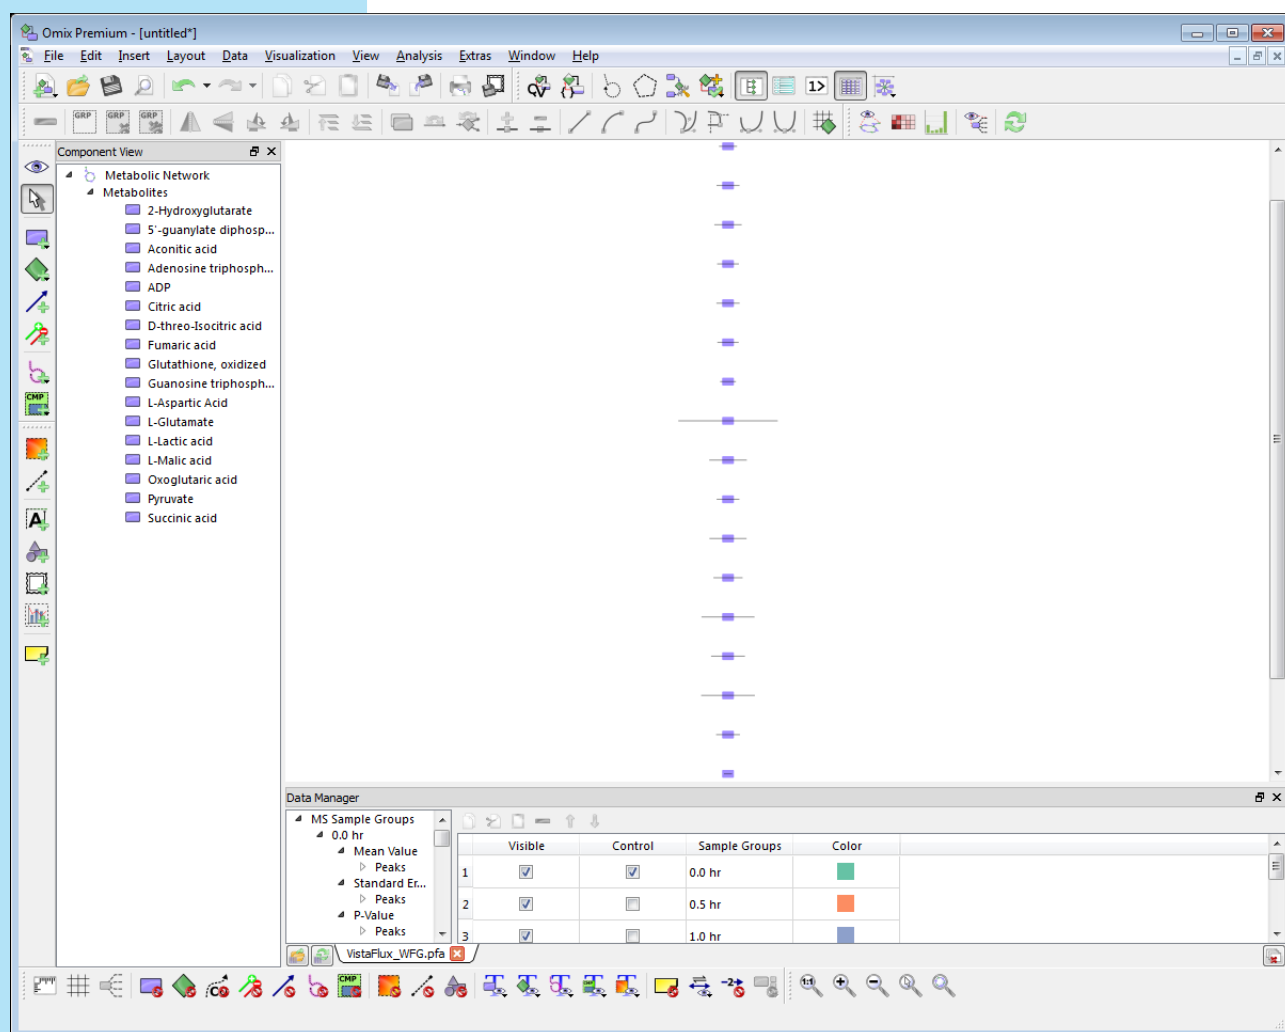

Figure 113 Target metabolites added to a new Omix Premium document
- d Click anywhere on the *Drawing Area* to visualize the compounds in Omix Premium. The compounds are added to your new document as separate, unconnected nodes arranged in a vertical column (Figure 113).